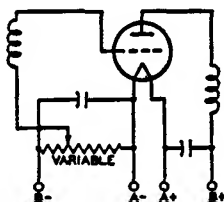
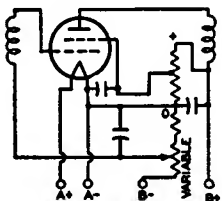

Fig. 84—Amplifier stage using a variable cathode-bias resistor for volume control.
Fig. 86—Amplifier stage using a bleeder circuit and potentiometer for volume control.
**Grid-bias variation** for the rf and if amplifier stages is a convenient and frequently used method for controlling receiver volume. The variable voltage supplied to the grid may be obtained: (1) from a variable cathode resistor as shown in Figs. 84 and 85; (2) from a bleeder circuit by means of a potentiometer as shown in Fig. 86; or (3) from a bleeder circuit in which the bleeder current is varied by a tube